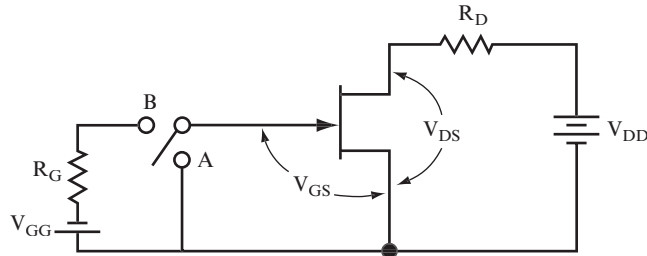

FIGURE 3.32
15. Answer the following questions for the circuit shown in Figure 3.32.